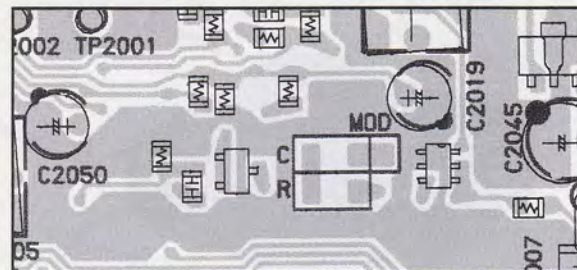

Fig. 3 TX Audio Component Location
- ❑ Next locate the set of pads labeled **MOD (C & R)**, above connector J2008 (fig. 3). Solder a 10-k Ω chip resistor across pad **R**, and a 0- Ω chip resistor* across pad **C**, and a wire lead to the adjacent pad. Pre-emphasized audio is fed to the transmitter here.